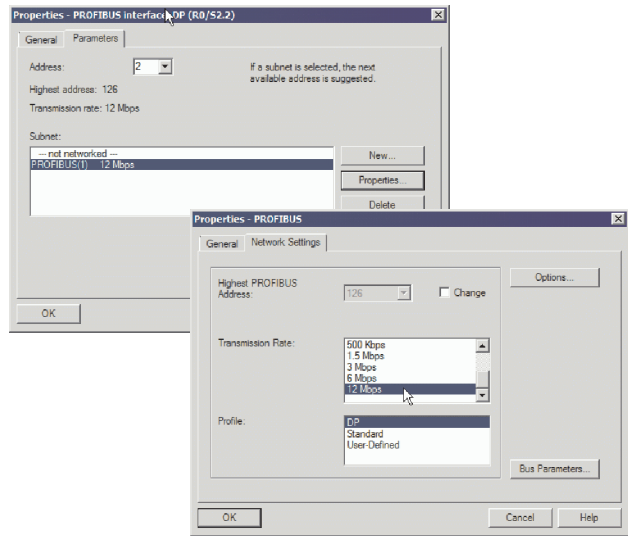

Fig. 2/5: Edit the sub-network properties
The dialogue window “Properties - PROFIBUS interface DP” opens automatically (see Fig. 2/5).
13. Click on “New...” in the “Properties” dialogue window to set up a PROFIBUS sub-network (see Fig. 2/5).
14. Edit, if necessary, the “Transmission rate” und “Profile” entries in the “Parameters” tab (see Fig. 2/5).